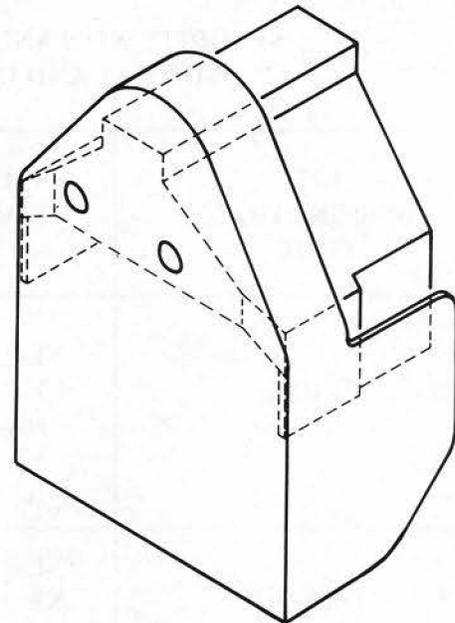

Fig. 3 — Antidrilling Relay Guard
4.02 A security kit may be ordered as a complete kit or individual items may be ordered from the codes listed in Table B. The antidrilling relay guard, as shown in Fig. 3, may be ordered as a Guard Assembly, P0521254.